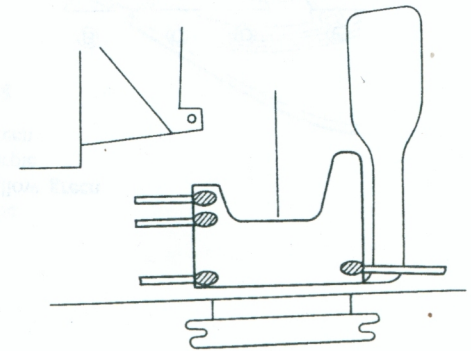

Fig. 34
- 17) Solder four LEAD WIRES on the synchro base plate as shown in Fig. 34.